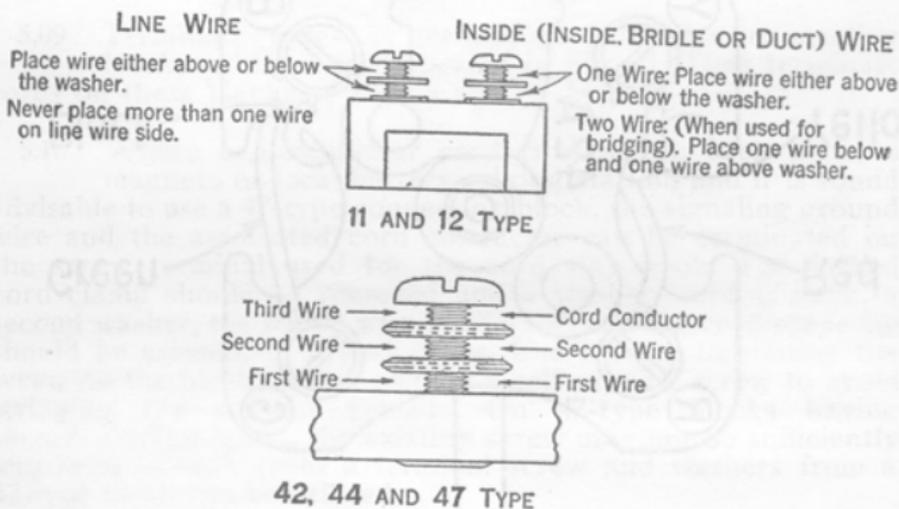
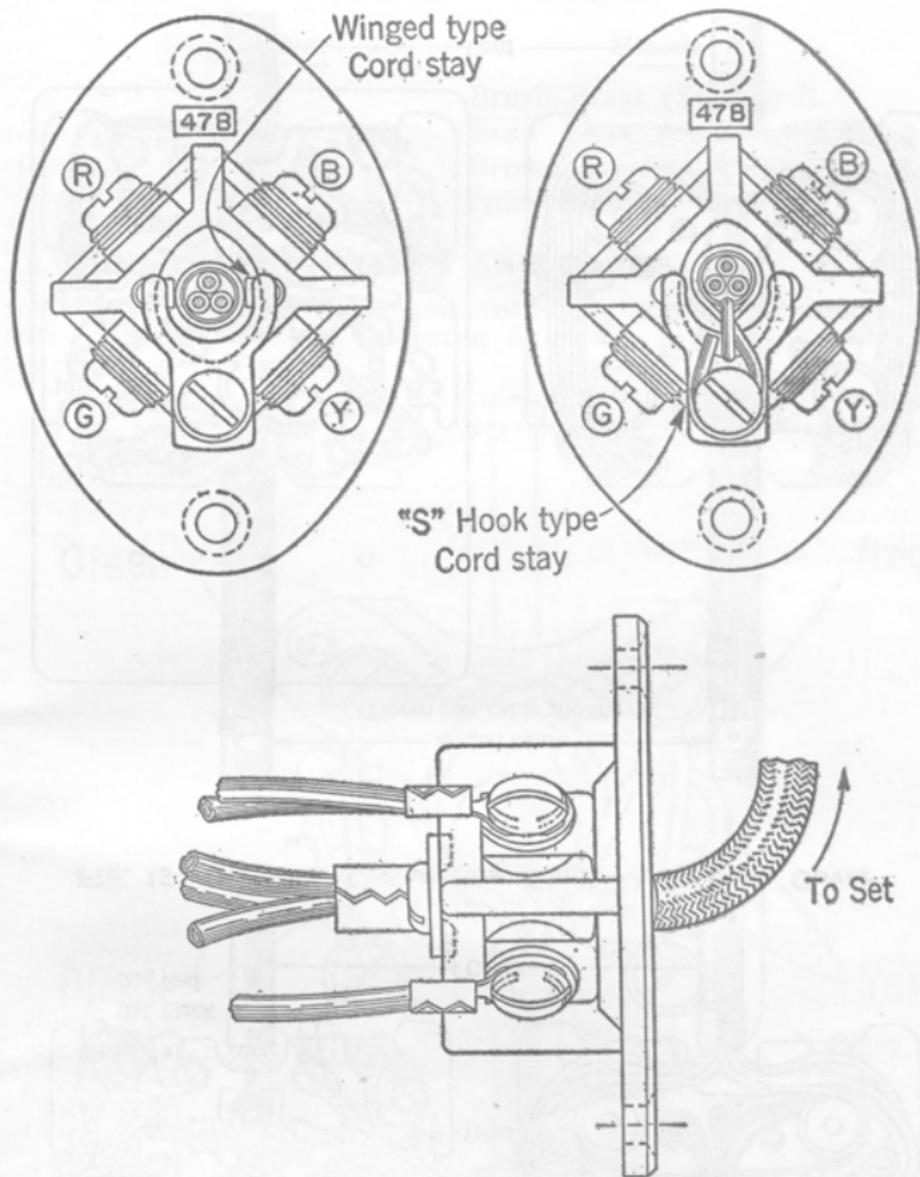

Fig. 11—Screw Terminal Connections for Connecting Blocks
Fig. 14—Cording of 47-Type Connecting Blocks
5.04 Station wires when fastened down shall pass through the channel on underside of block as shown in Fig. 10, the conductors being separated into two groups according to color and then passed up through the C notches to the proper terminals. Where more than one set of wires enter the block, usually it will be desirable to take the twist out of the wires back to where they enter the wire channel, and separate them by colors before fastening the block down over the wires. In any case where the wire channel is not large enough to accommodate all wires entering the block, the wires in excess of the number the slot will accommodate may be run up through C notches without passing through the wire channel. Arrange connections at connecting block screw terminals as shown in Fig. 11, leaving the insulation on the wires cut back about 1/8 inch from the edge of the washers.
5.06 In wiring and cording connecting blocks, wires should be attached first and the cords last (see Fig. 11) so as to facilitate tests at connecting blocks or subsequent cord replacements.
5.09 Terminate wires at terminals of 47-type connecting blocks in the order indicated in Fig. 11. Then terminate cords on these blocks as shown in Fig. 14.